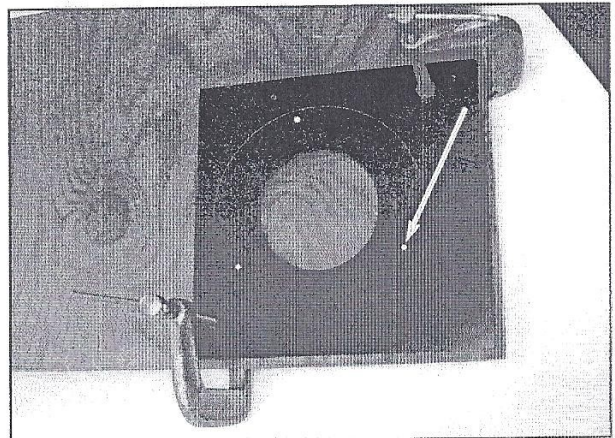

Figure 9. Preparation for drilling
- Clamp a board to the unmarked side of the carriage plate (Figure 9). This board will protect the carriage plate when drilling the router base mounting holes. If the holes to be drilled will penetrate the scale on the carriage plate face, first remove the scale, and reattach after the router plate is mounted.
- Drill the router mounting holes in the carriage plate (Figure 9) with a bit the same size as the mounting holes in your router base. Counter sink the holes on the topside of the router carriage plate so that the router base mounting screws will mount slightly below the carriage plate surface.